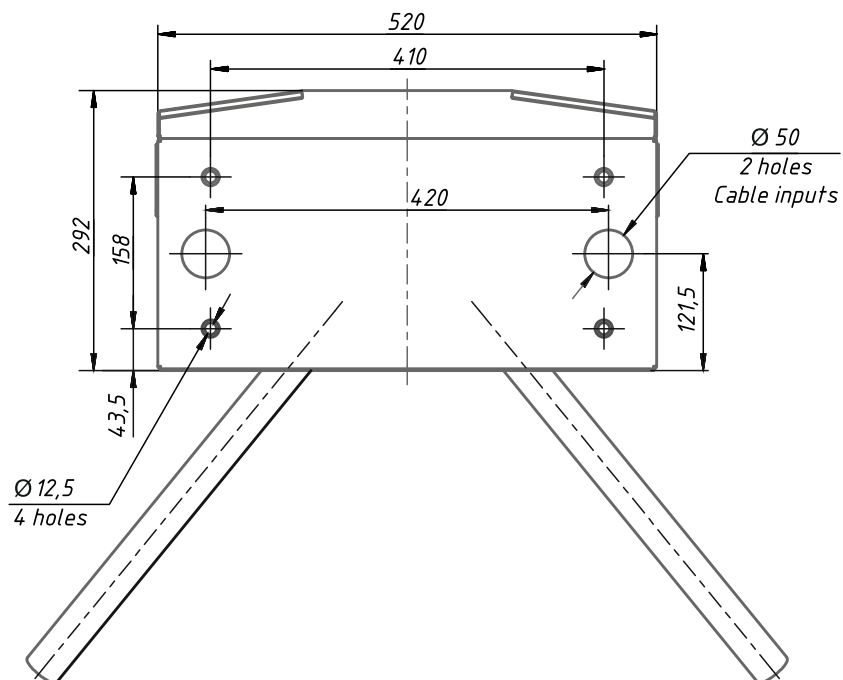

Fig. 13 – Tripod type turnstile installation marking
- 6) When cables to be laid under the floor surface, then a cable duct to be prepared in the floor leading to the turnstile rack cable entry area. The cable entry area layout is shown in Fig.13 diagram.